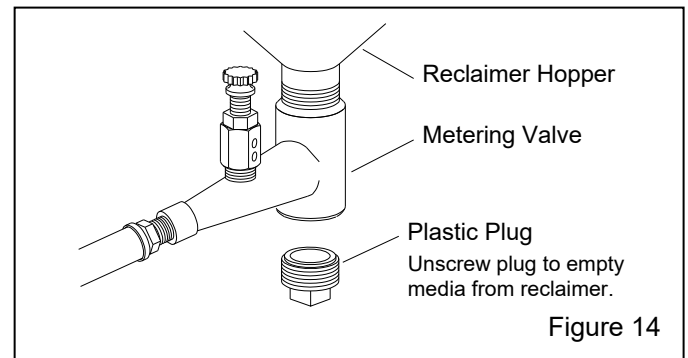

Figure 14
**4.3 Media Unloading – Figure 14**